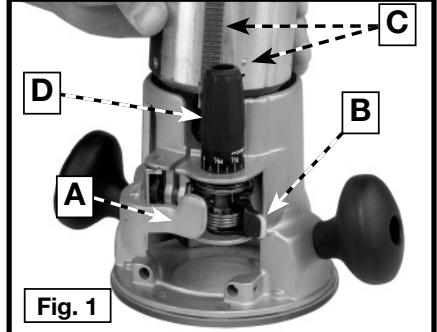

Fig. 1
- (a) Open the clamp (A) Fig. 1.
- (b) Push the lever (B) Fig. 1 toward the power unit.
1. Open the clamp (A) Fig. 1 and set motor in the base.
2. Align the rack and pin (C) Fig. 1 of the motor with the grooves in the base. Pull the lever
2. Align the rack and pin (C) Fig. 1 of the motor with the grooves in the base. Lower the motor into the base.